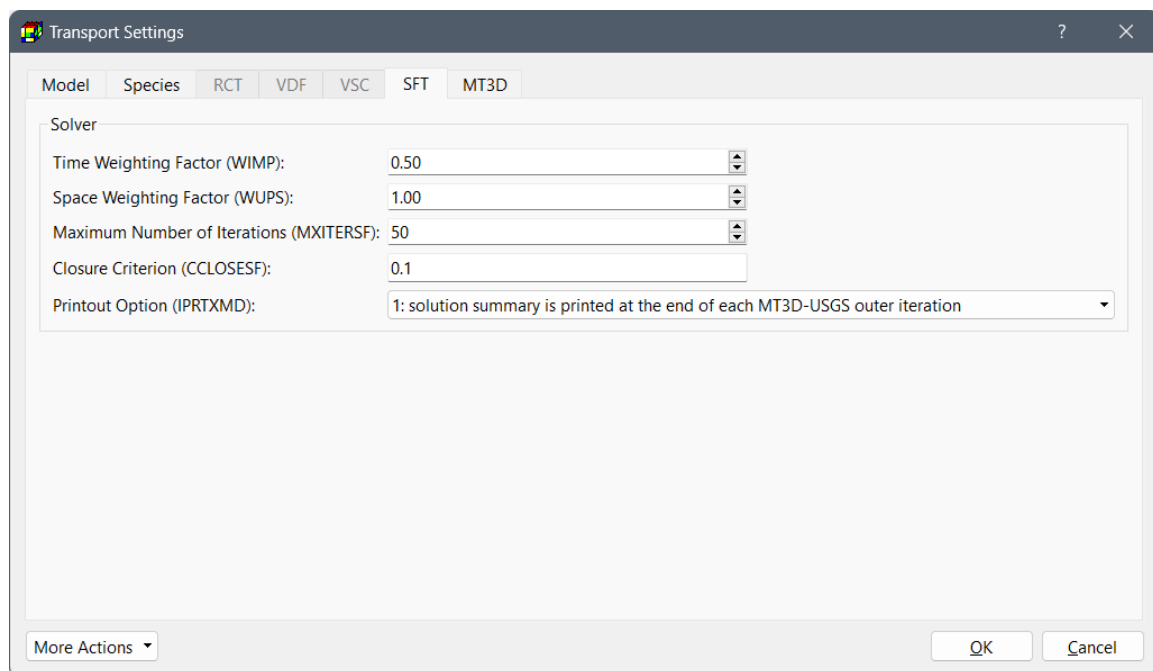

Figure 121. The SFT tab of the Transport Settings dialog box
7. **SFT Tab** (Figure 121) contains options for the Streamflow Transport (SFT) Package of MT3D-USGS.